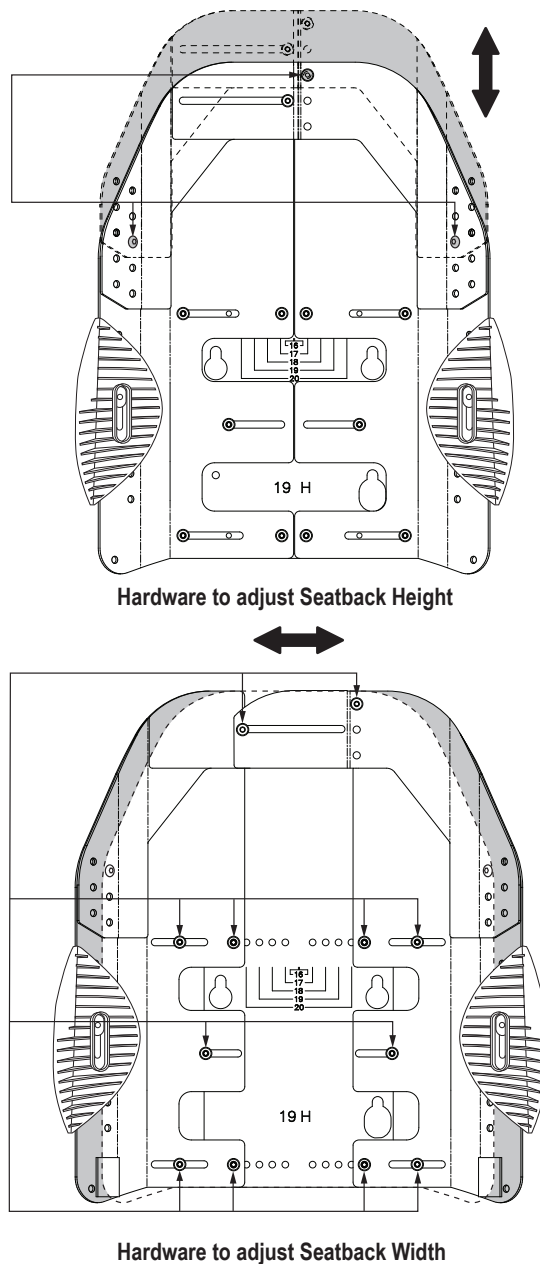

Figure 21. Height and Width Adjustments for Seatback
1. Loosen the hardware. **See figure 21.**